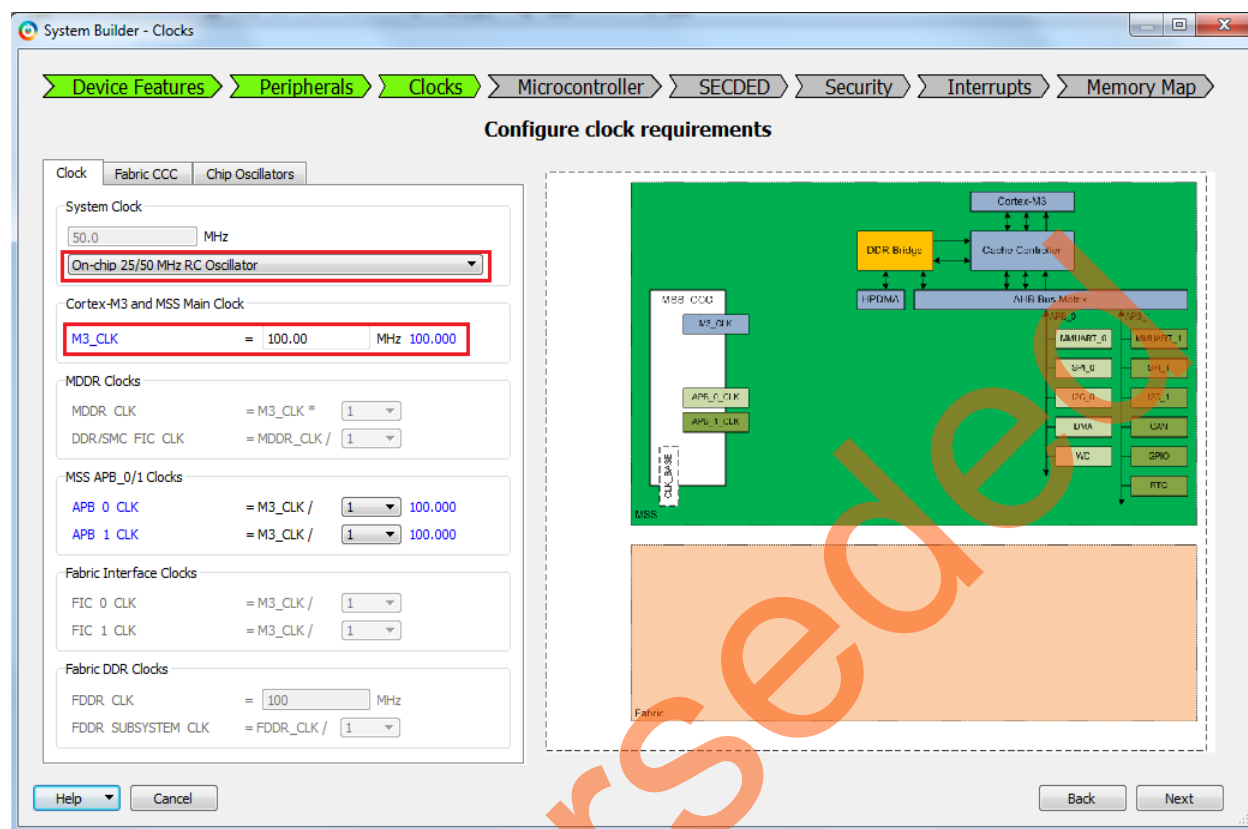

Figure 9 • System Builder Configurator – Clock Settings Page
11. Click **Next**, the **System Builder – ClocksSettings** page is displayed, as shown in Figure 9. Select **System Clock** source as **On-chip 25/50 MHz RC Oscillator**. The M3_CLK is configured to 100 MHz by default.